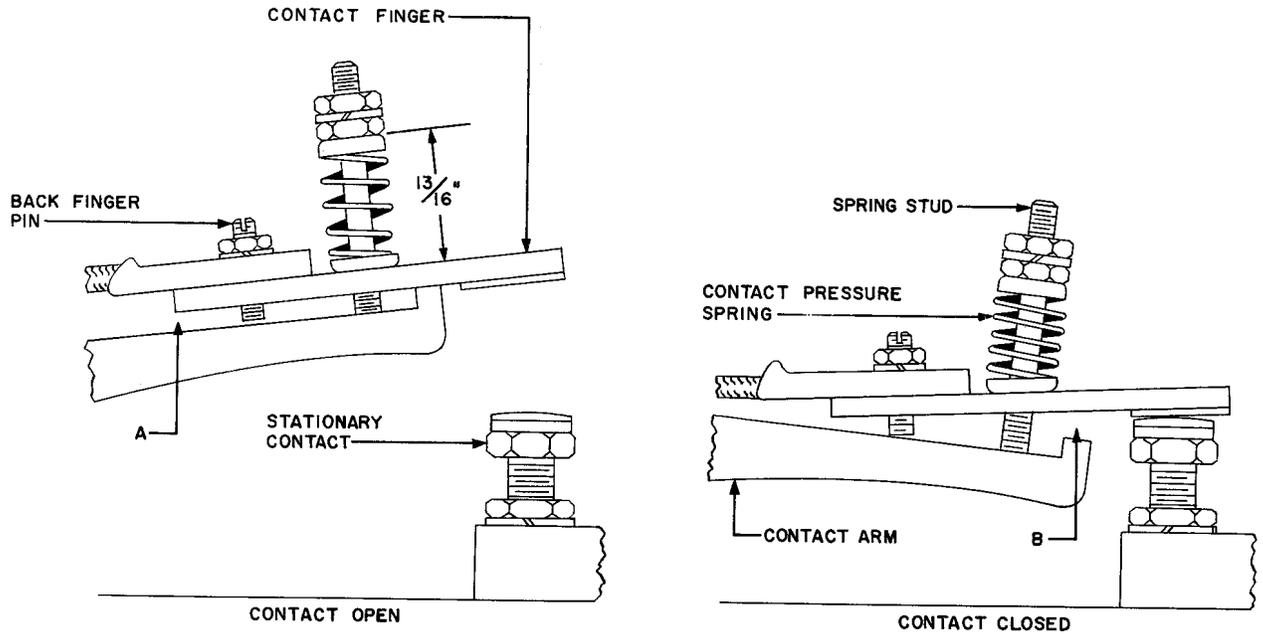

Fig. 4 - Contact Adjustment for Butt-Type Main Contacts
┌ (2) **Butt-Type Main Contacts** — See Fig. 4: